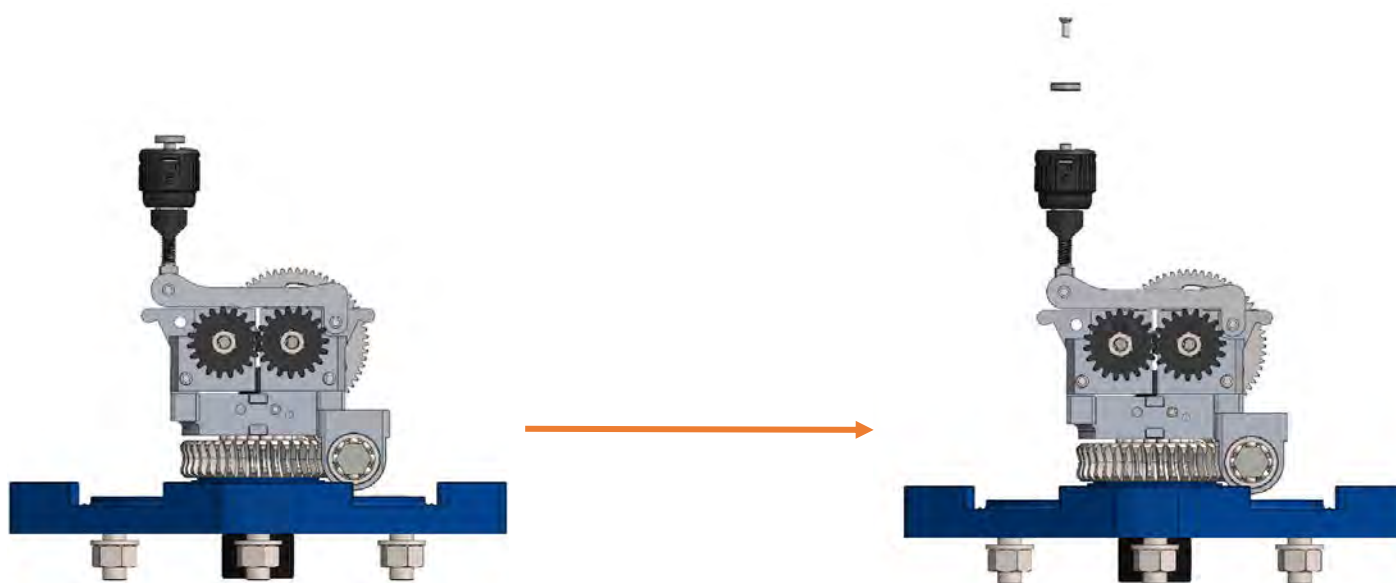

Figure 22
2. Place the knob in a vertical position, in such a way as to prevent it from falling, and using a male hexagonal wrench, loosen the screw and remove the anti-fall lock from the knob. Figure 22;